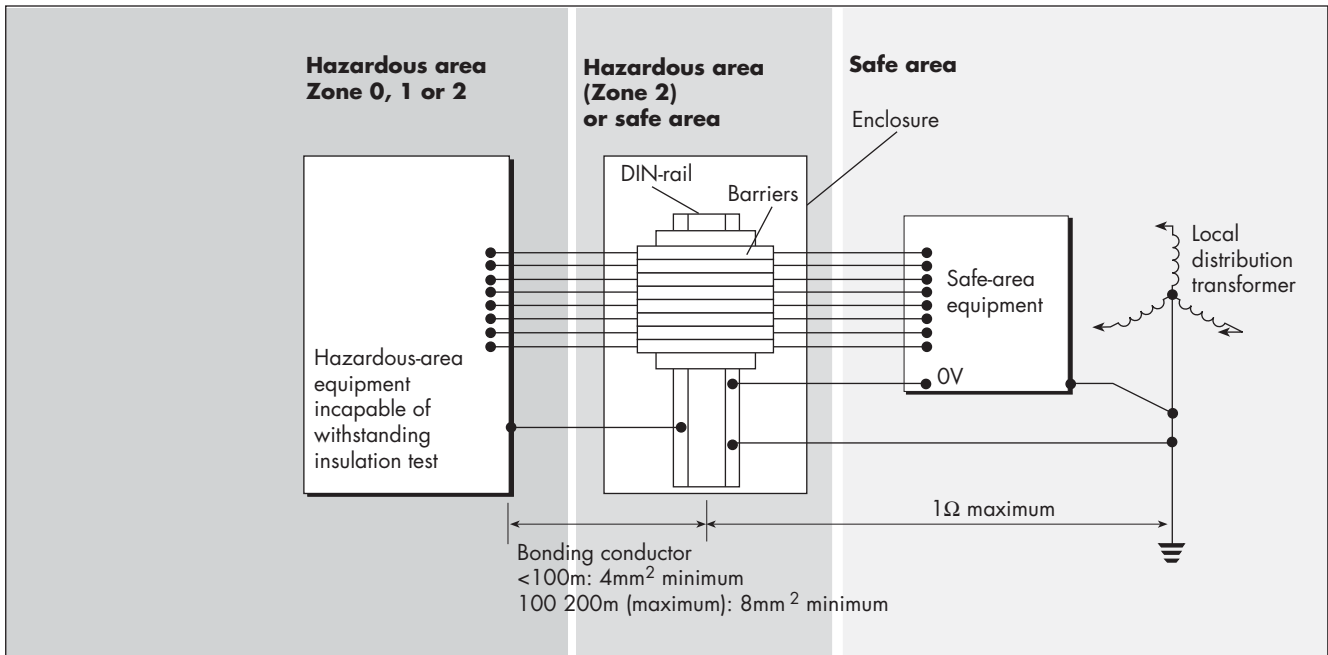

Figure 18: Bonding practice where hazardous-area equipment cannot meet required standards of insulation from earth
- Figure 18 shows the 0V rail of the safe-area equipment returned to the barrier DIN-rail by a separate insulated conductor and the structural earths of any safe-area equipment returned separately to the neutral star-point. This reduces interference problems but